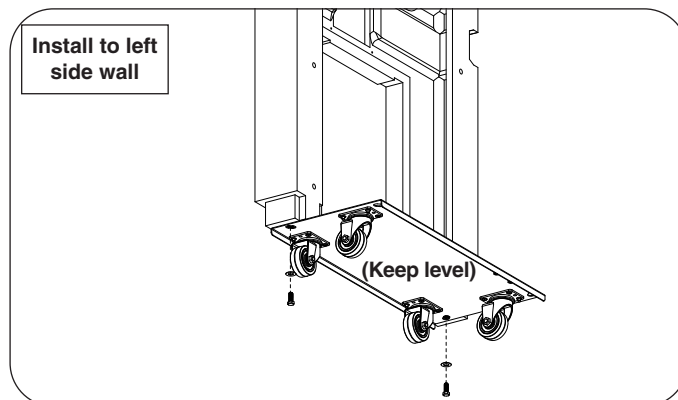

Fig. 6-2 Install left wheel assembly to bottom of left side wall
1. Align the left wheel assembly onto the left side wall and fasten using the included hardware and a $\frac{9}{16}$ " open-end wrench or equivalent. Hand tighten only. See Fig. 6-2.